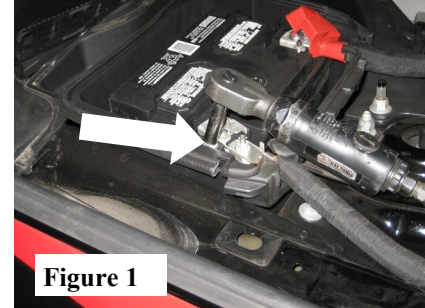

Figure 1
1. Disconnect negative lead from battery terminal prior to installation. (See Fig.1)